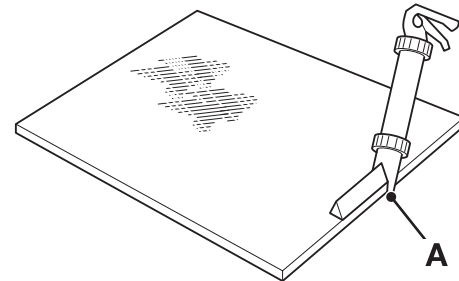

Fig 15.
- 6 Apply the pre-heated adhesive to the glass (do not start in a corner). Keep the nozzle guide **15-A** against the edge of the glass and make sure that the adhesive forms a continuous 'pyramid' shape, see Fig 15. (↗ B-35)